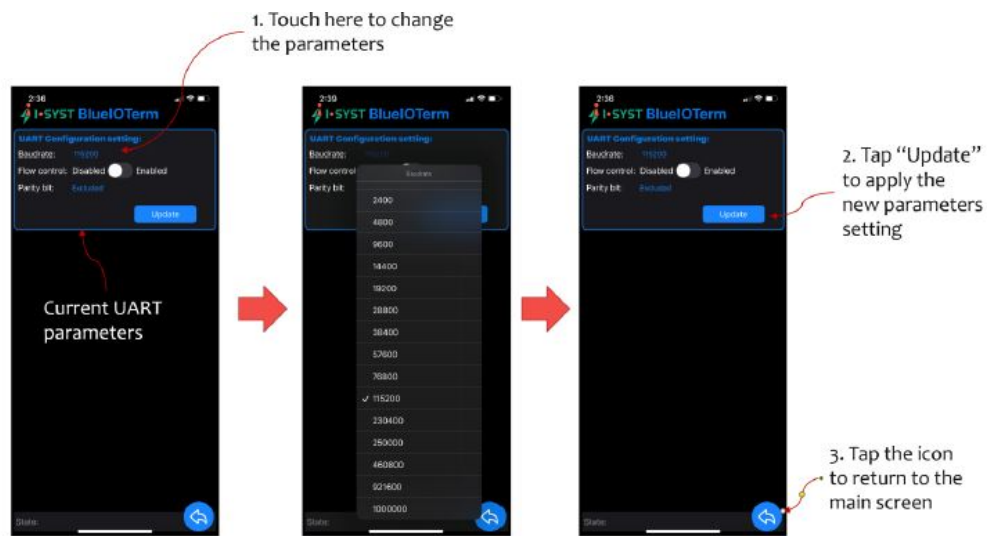

Fig. 11. Change UART parameters in BlueIOTerm.
5. To change the UART parameters, tap "Setting" to go to the UART configuration setting menu. The UART parameters shown in the menu are the current settings (Fig. 11).